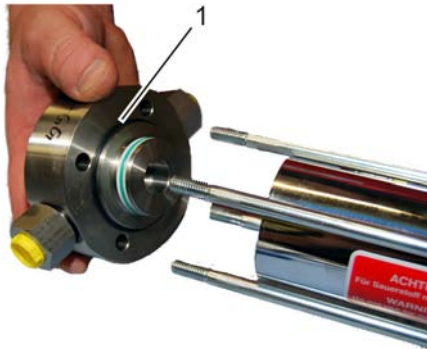

Fig. 58: Detaching the booster head
- 9.** Carefully detach booster head (Fig. 58/1) from stay bolts.